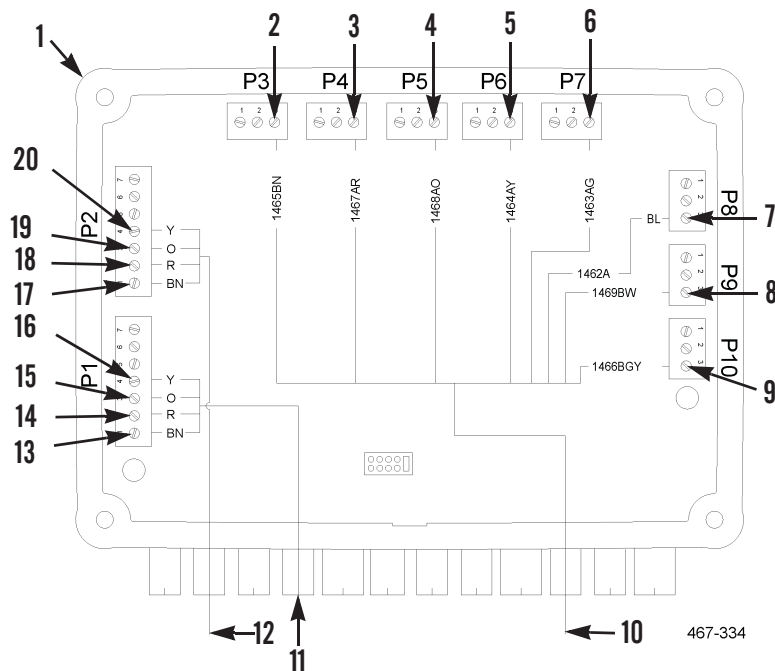

Figure 14. Additional MUX Box Wiring Removal.
1. Disconnect brown wire from position 1 (Figure 14, Item 13), red wire from position 2 (Figure 14, Item 14), orange wire from position 3 (Figure 14, Item 15), and yellow wire from position 4 (Figure 14, Item 16), on P1.
2. Remove CAN bus harness (Figure 14, Item 11) from additional MUX box (Figure 14, Item 1).
3. Disconnect brown wire from position 1 (Figure 14, Item 17), red wire from position 2 (Figure 14, Item 18), orange wire from position 3 (Figure 14, Item 19), and yellow wire from position 4 (Figure 14, Item 20), on P2.
4. Remove CAN bus harness (Figure 14, Item 12) from additional MUX box (Figure 14, Item 1).
5. Disconnect 1465 wire from position 3 (Figure 14, Item 2) on P3, 1467 wire from position 3 (Figure 14, Item 3) on P4, 1468 wire from position 3 (Figure 14, Item 4) on P5, and 1464 wire from position 3 (Figure 14, Item 5) on P6.
6. Disconnect 1463 wire from position 3 (Figure 14, Item 6) on P7, 1462 wire from position 3 (Figure 14, Item 7) on P8, 1469 wire from position 3 (Figure 14, Item 8) on P9, and 1466 wire from position 3 (Figure 14, Item 9) on P10.
7. Remove stowage loom harness (Figure 14, Item 10) from additional MUX box (Figure 14, Item 1).